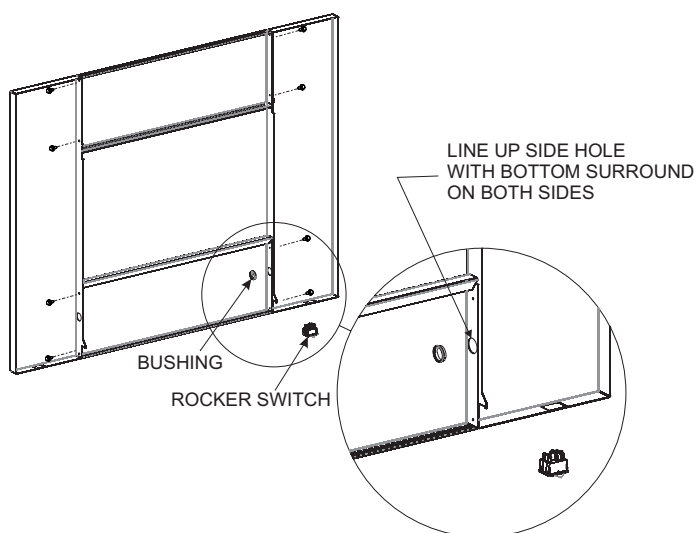

Figure 51
3. Place shield on top of firebox and secure with three (3) screws removed in step 1.
4. Assemble the surround with eight (8) #10 x 1/2 screws (four on each side) as shown in Figure 51.
8. Install bushing on left or right side of surround. See Figure 51.
11. Install rocker switch on same side of surround as bushing. The switch will be easily accessible from the outside of the surround. See Figure 51.